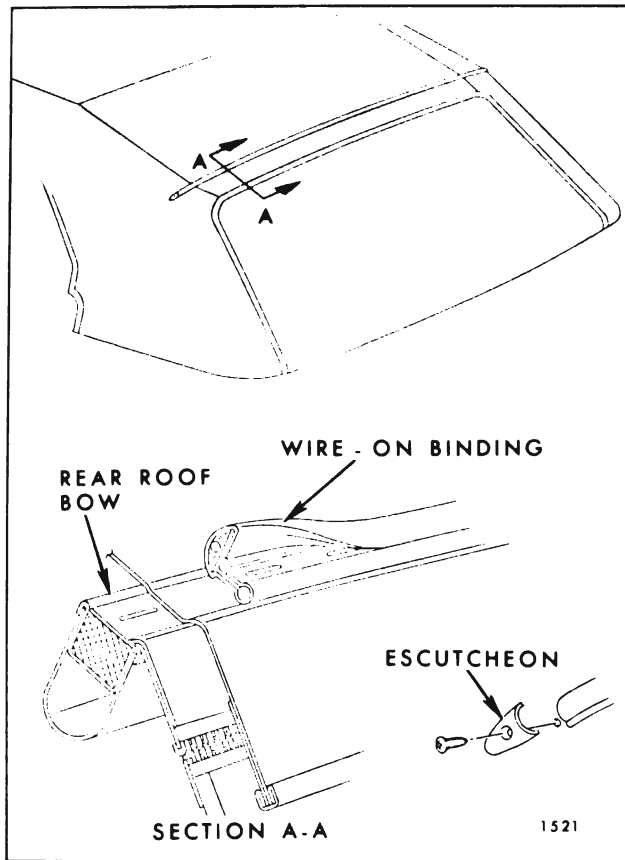

Fig. 13-9 - Rear Roof Bow Wire-On Binding
23. Remove screw securing escutcheon clip at each end of wire-on binding on rear bow. Remove wire-on binding from rear bow. Detach top material from rear roof bow and from trim sticks, then remove top cover assembly (Fig. 13-9).